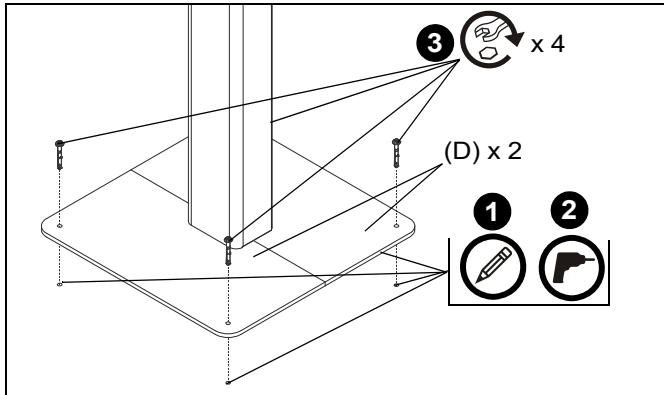

Figure 8
**IMPORTANT !** : Base plates (D) must be attached to column (A) and bolt plate (C) before being bolted to floor.
1. Use base plates (D) as a template to mark holes on floor at desired mounting location.
2. Drill holes at marked locations according to instructions of hardware being used for installation. (See Figure 8)
3. Use hardware (not included) to secure base plates (D) to floor. (See Figure 8)